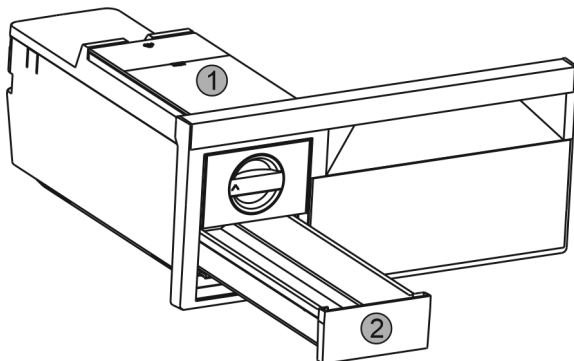

Fig. 29
- ▶ Take out the water tank *Fig. 29 (1)* and ice cube drawer *Fig. 29 (2)*.